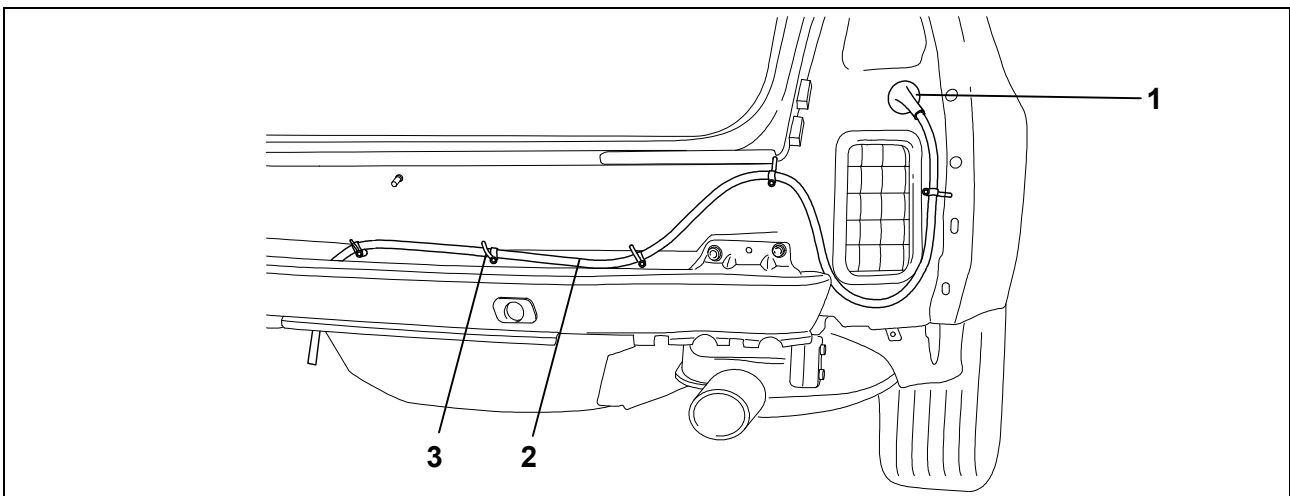

Fig. 3: Laying the cable harness
8. Remove the existing blind plug from the cable leadthrough (Fig. 3/1).
9. Starting at the socket holder plate, lead the cable harness (Fig. 3/2) into the luggage trunk through the cable leadthrough on the vehicle (Fig. 3/1).
10. Insert the rubber grommet into the cable leadthrough (Fig. 3/1).
11. Fasten the cable harness (Fig. 3/2) with the supplied cable ties (Fig. 3/3).